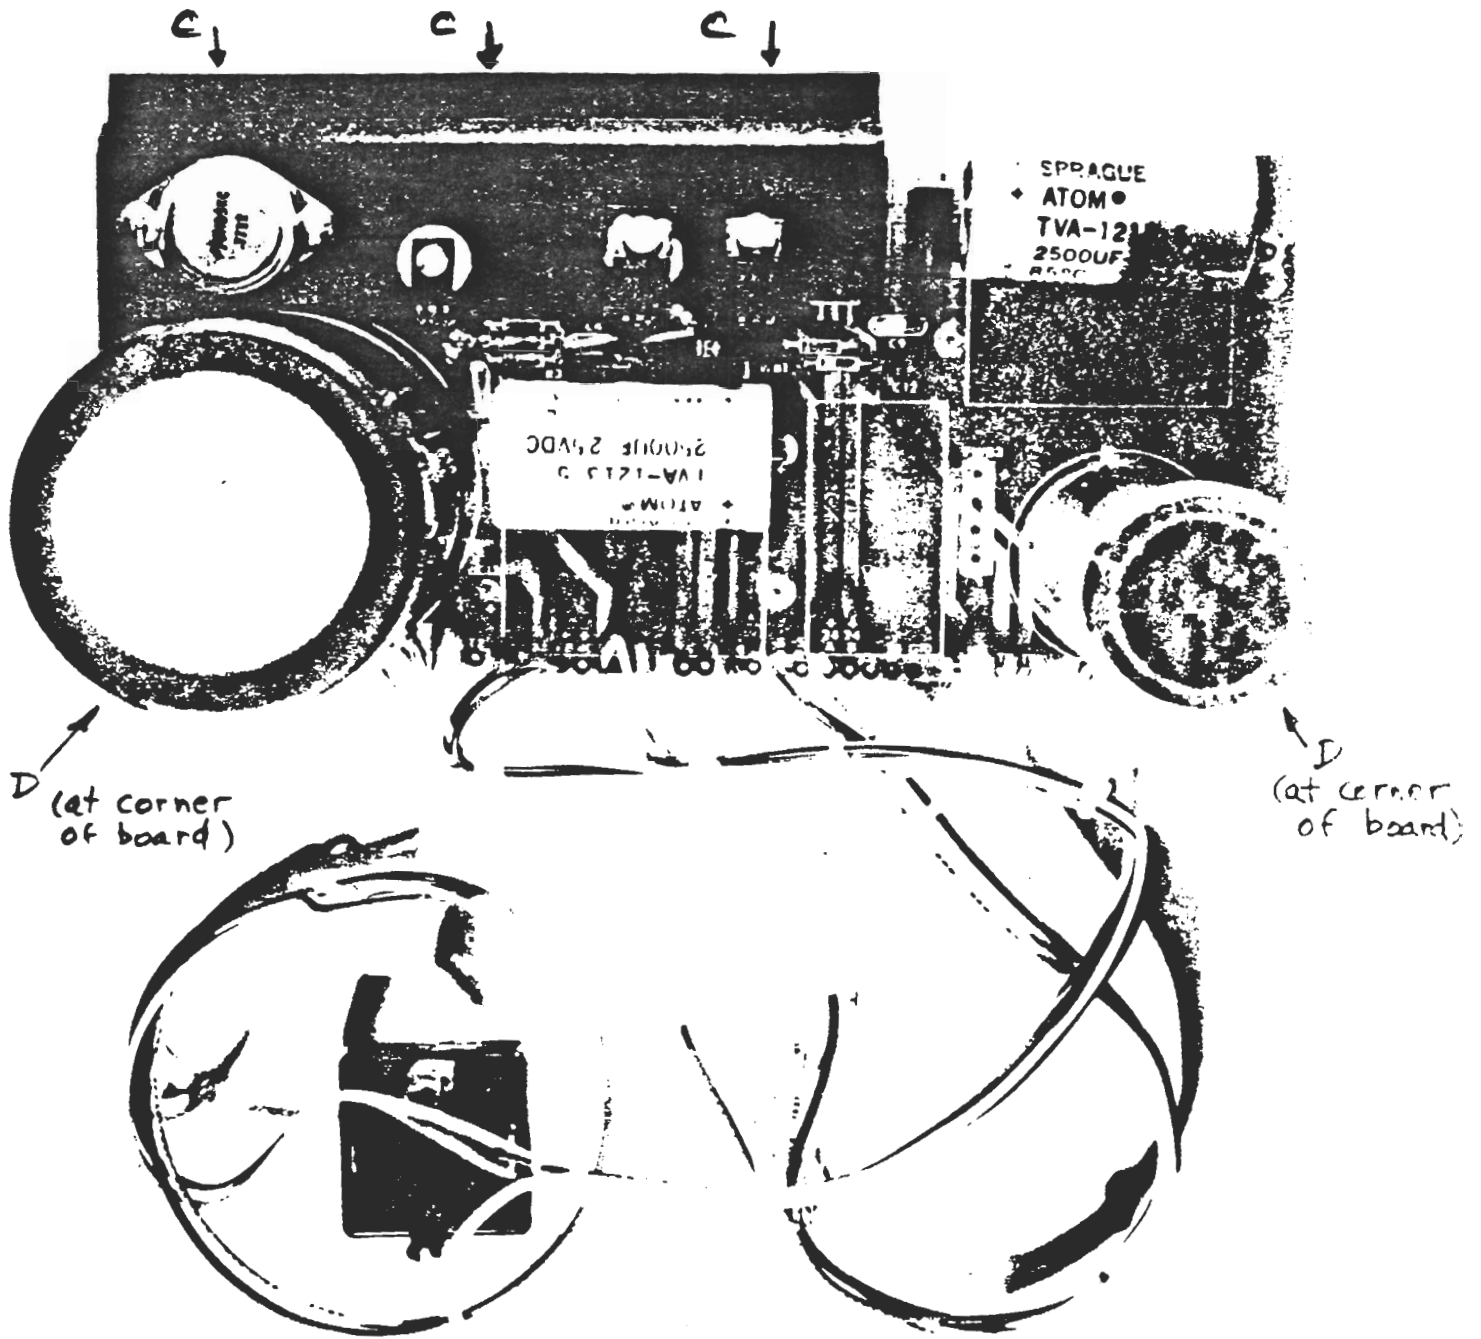

Fig. 3-15 Regulator PCB and Wiring Harness
7. Locate the black heatsink on the regulator board and remove the three screws "C" which hold it to cabinet base (Figure 3-15). Don't lift it yet.
8. Locate the two screws "D" (Figure 3-15) at the opposite side of the PCB. Loosen them completely. The board is now free. Lift it (carrying the "D" screws with it) and turn it over enough to access the screws on its underside. Be careful not to misplace the two metal cylinders which are stand-offs that are part of the screw "D" mounting. In some units, these are loose; in others, they are screwed into the base.